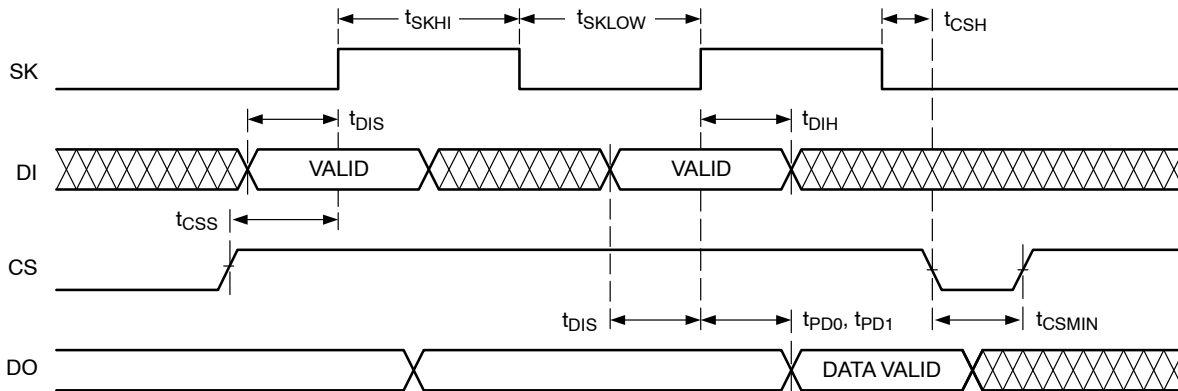

Figure 5. Synchronous Data Timing
Instructions, addresses, and write data are clocked into the DI pin on the rising edge of the clock (SK). The DO pin is normally in a high impedance state except when reading data from the device, or when checking the ready/busy status after a write operation. The serial communication protocol follows the timing shown in Figure 5.